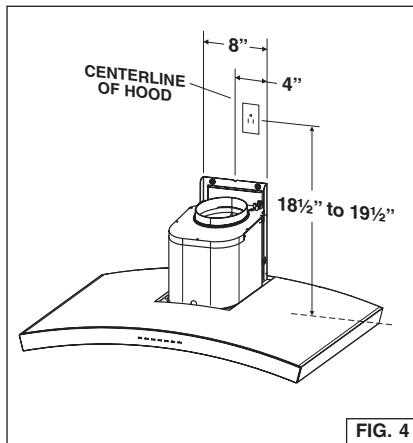

FIG. 4
2. Install a standard 2" x 4" wall outlet box and 3-blade 125 volt, 15 Amp grounded receptacle. Fig. 4.